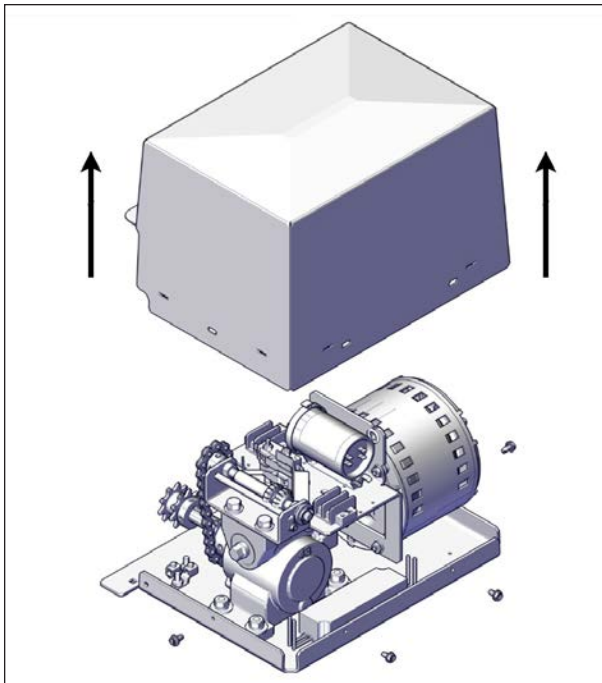

FIGURE 68: OPERATOR COVER REMOVAL
2. Remove the four screws at the bottom of the operator cover, and remove the cover as shown in Figure 68.